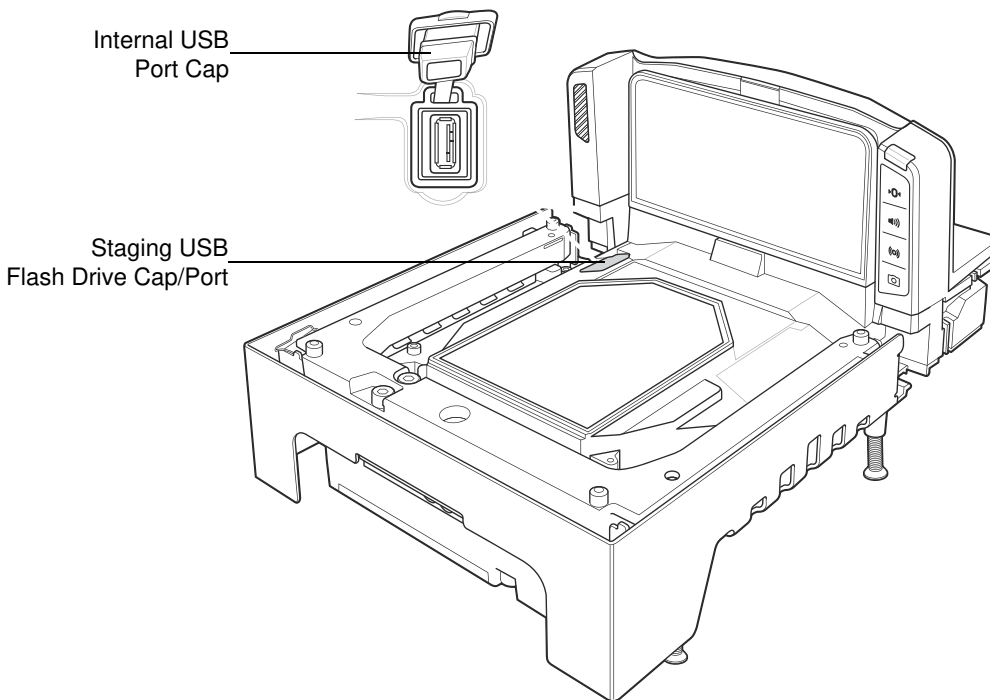

Figure 5-12 *Internal USB Port Under Platter*
The MP70XX has three USB ports which can be used to load files (see Figure 5-12):
- Insert the staging flash drive into one of the MP70XX USB ports (Figure 5-12), and select *Option 1 - Load Files* (see Step 3).